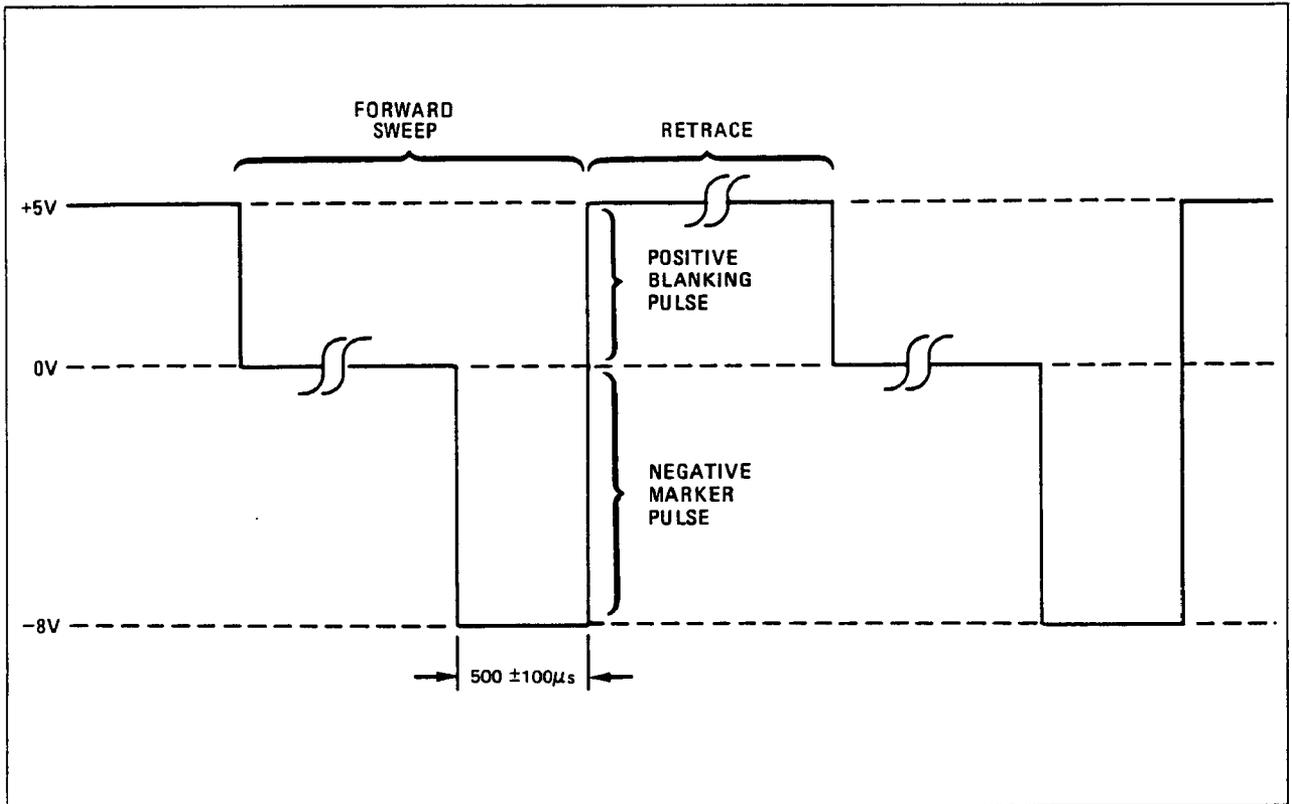

Figure 5-17. Marker DAC Adjustment Waveform
10. Adjust A4R28 so the pulse width is $500 \pm 100 \mu\text{s}$ (5 divisions \pm 1 division on oscilloscope). Refer to Figure 5-17.